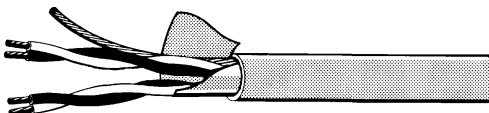

Figure 3.
- If **SHIELDED CABLE** is used, **DO NOT** use the shield as a **negative connection** & do not allow the shield to make contact with Negative, Ground, or any other wiring or metalwork within the system. Shields should only be terminated to a Protective Earth at ONE END of the cable. ❶ See "System Earthing" below. If no suitable earth point is available at a module location, the shield can be looped back to the shield of the previous length of cable. ❷
- **LAN POWER CABLING.** Separate heavy duty Figure 8 cable (24 / 0.20 recommended) should also be run for "POS" & "NEG" over longer distances if used for powering modules. e.g. LCD Terminals. *Figure 3.*